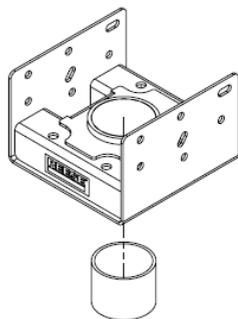

Figure 8
5. Install pivot bushing into the turret as shown in figure 8. Applying white lithium grease to the inner tube of the turret may ease assembly. Install wear plate onto sidewinder arm (Figure 9), be sure to place the chamfer facing down (Figure 10). Apply white lithium grease to the surfaces shown in figure 11, be sure to coat the entire surface.